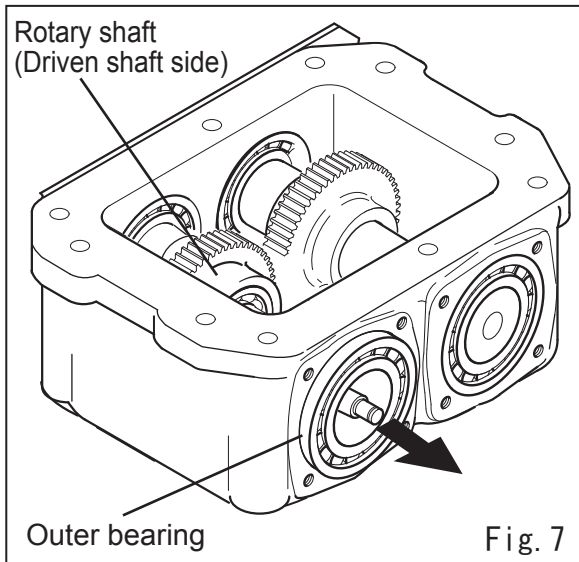

Fig. 7
- f. Shift the rotary shaft (driven shaft side) (15) to one side of the vibrating case and remove the outer bearing and withdraw the rotary shaft assembly from the vibrating case. (Fig. 7)